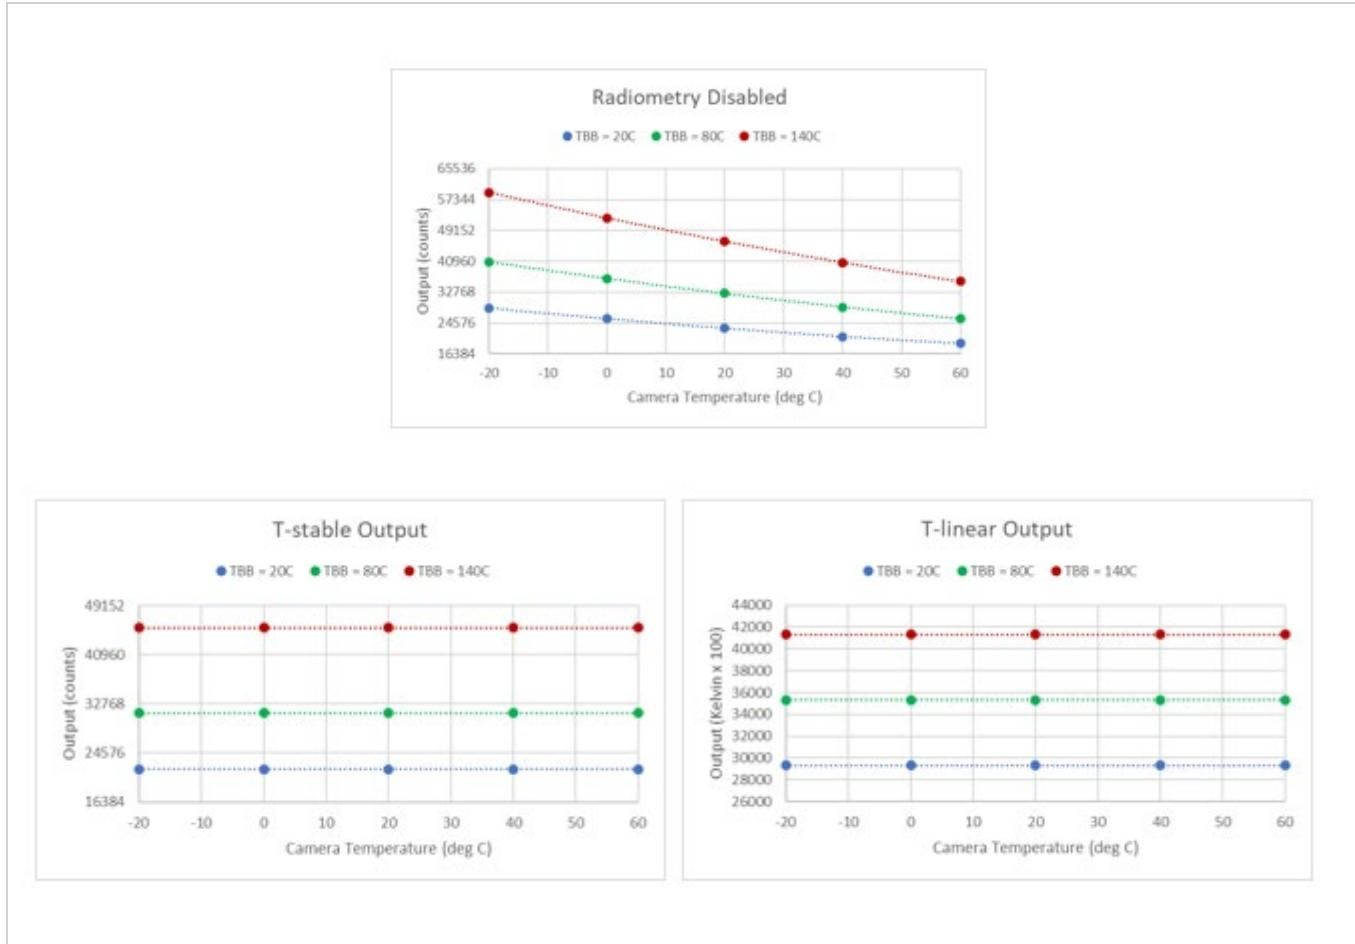

FIGURE 14: OUTPUT VS. CAMERA TEMPERATURE COMPARISON: RADIOMETRY DISABLED, T-STABLE, AND T-LINEAR
Some configurations of Boson+ provide the option of radiometric output. For such configurations, the 16b output (14b output with MIPI) can be configured to “temperature stable” or “temperature linear” as described below and depicted in Figure 14.
- **Temperature-stable output:** 16b output (14b output with MIPI) value is intended to be proportional to scene-flux only and independent of camera temperature. When imaging a given scene, the output image is stable even if the camera’s temperature varies, as shown in the middle graph of Figure 14. By comparison, output varies significantly with camera temperature when radiometry is disabled, as illustrated in the left-most graph.
- **Temperature-linear output:** 16b output (14b output with MIPI) value is intended to be directly proportional to scene temperature. In high-gain state, the value corresponds to scene-temperature in Kelvin multiplied by 100 (25 with MIPI output), and in low-gain state corresponds to Kelvin multiplied by 50 (12 with MIPI output). For example, expected output in high-gain state when imaging a 20°C BB is $(20^{\circ}\text{C} + 273.15)^{*} 100 = 29,315$, as depicted in the right-most graph of Figure 14. In practice, radiometric error prevents an output that corresponds perfectly with scene temperature. See Section 11.5 for a discussion of